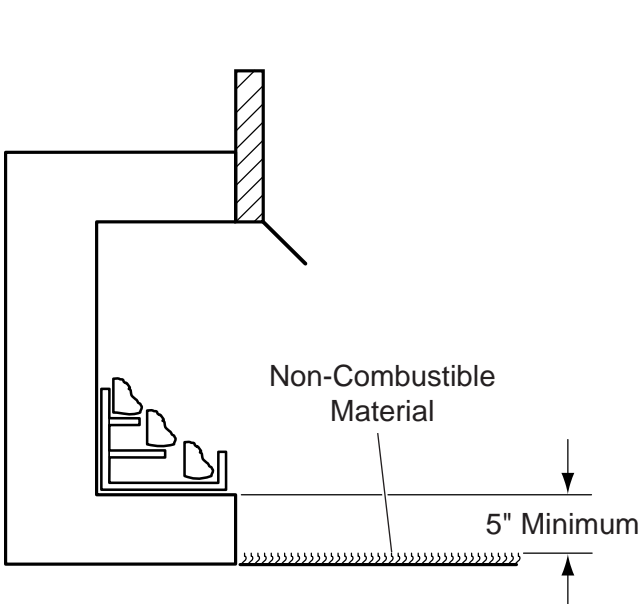

Figure 6 - Minimum Clearance above Combustible Flooring
- Floor clearance:** This inner chamber firebox floor must be installed at least 5" above any combustible flooring material, such as carpeting or asphalt tile, which is closer than 14" to the base of the firebox. See *Figure 6*.